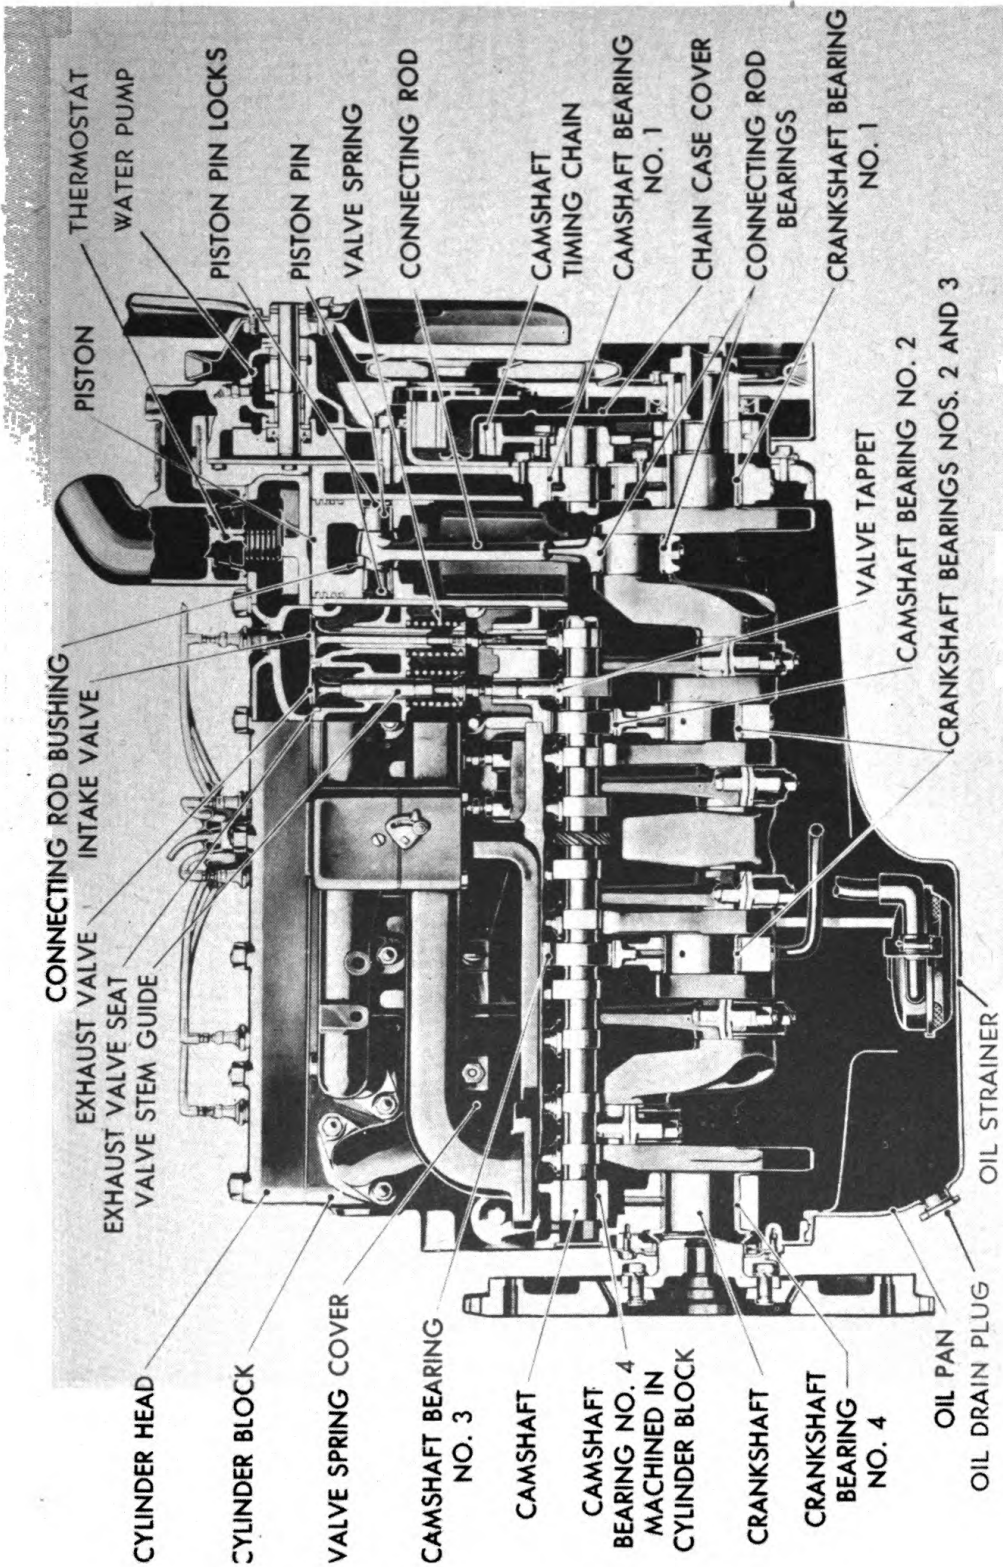

Figure 64—Side Sectional View Showing Functional Elements
c. The Chrysler T-108-503 engine is of the poppet valve gasoline burning type with liquid cooling and pressure lubrication. (Figure 64.)